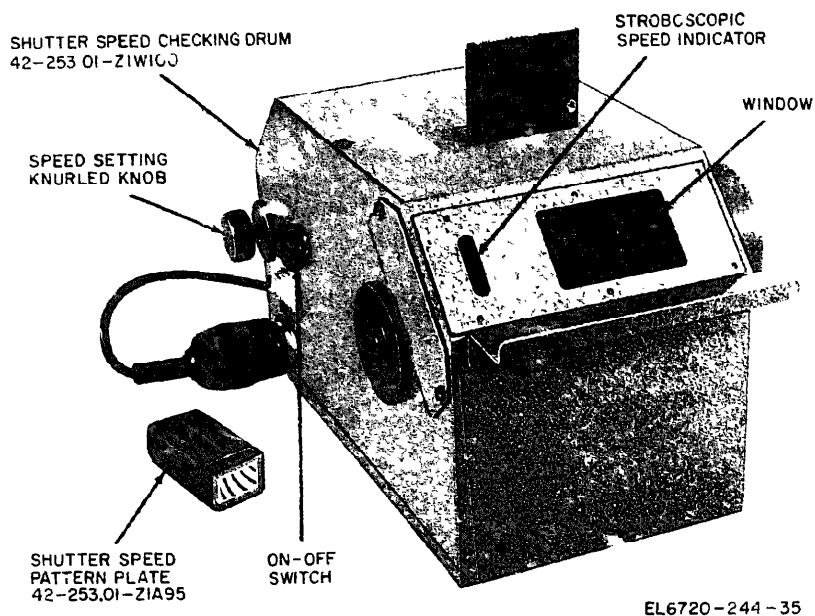

Figure 6-1 Shutter speed pattern plate 42-253-01-Z1A95 and shutter speed checking drum 62-253.01-Z1W100.
- (1) Shutter speed pattern plate 42-253.01-Z1A95 (fig. 6-1).
- (2) Shutter speed checking drum 42-253.01-Z1W100 (fig. 6-1).